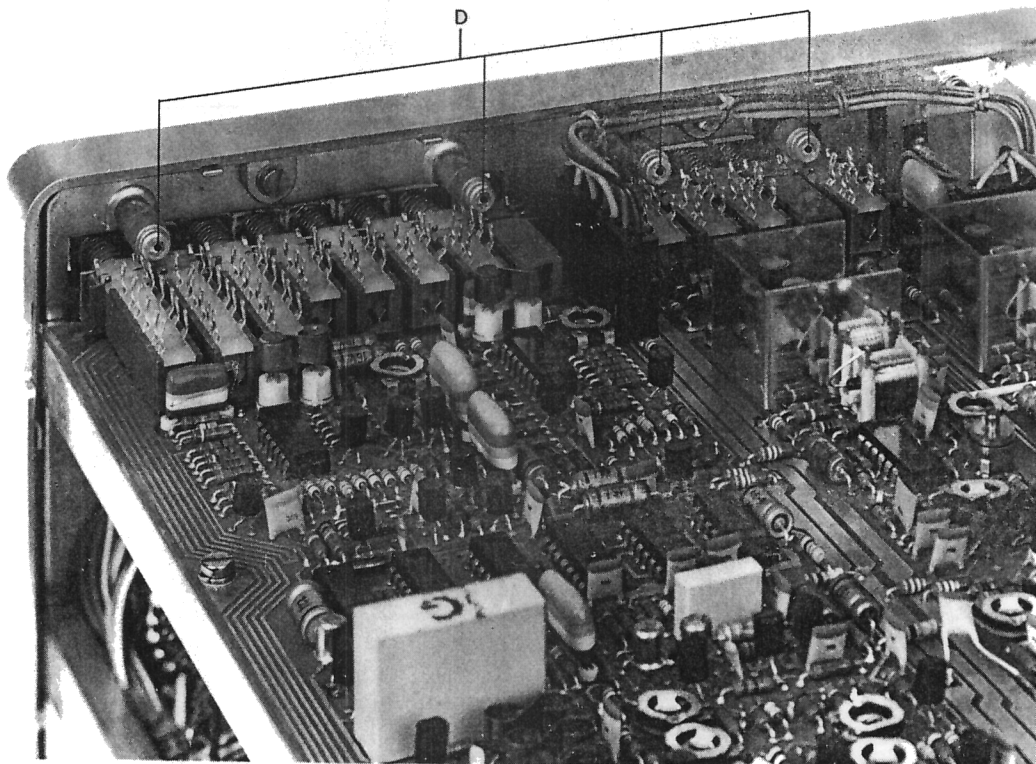

Fig. 3.25. Removing the pushbutton switches (screws D).
- Remove the four hexagon screws D that secure the pushbutton switches to the front panel (Fig. 3.25).